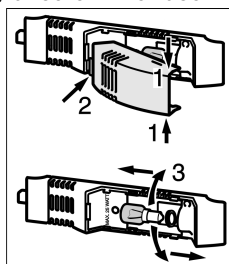

Fig. 13
- Take hold of the lamp cover at the top and bottom *Fig. 13 (1)*.
- Disengage the lamp cover at the back and detach it *Fig. 13 (2)*.
- Replace the lamp *Fig. 13 (3)*.